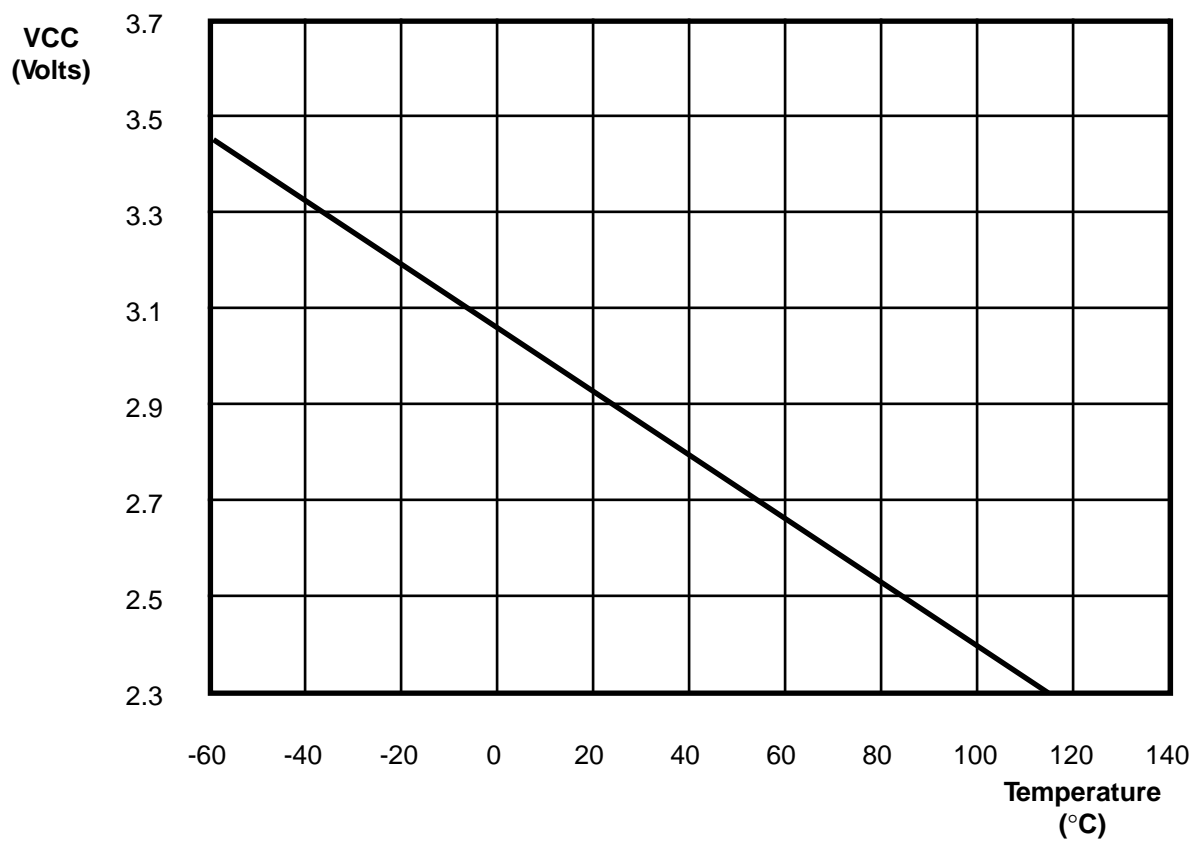

Figure 35. Typical Z86E40  $V_{LV}$  Voltage vs Temperature
**Auto Reset Voltage.** An on-board Voltage Comparator checks that  $V_{CC}$  is at the required level to ensure correct operation of the device. Reset is globally driven if  $V_{CC}$  is below  $V_{LV}$  (Figure 35).